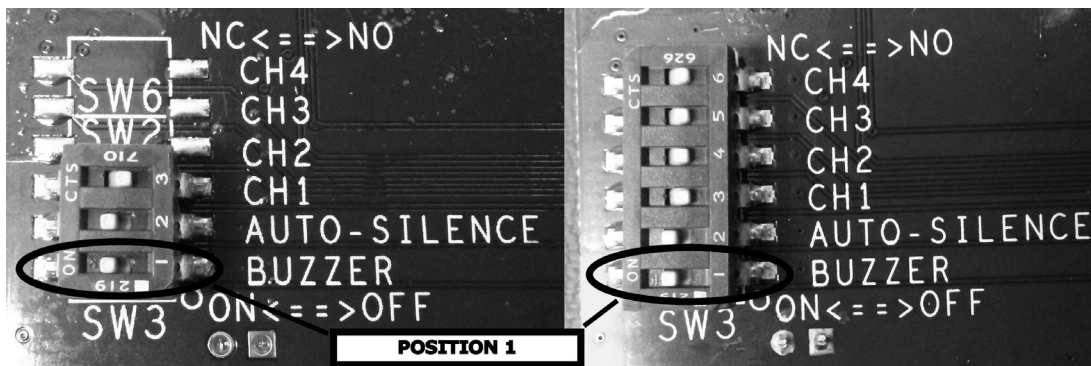

Figure 5 Configuration DIP Switch
- i. **Normally Open Contact Input Devices (default):** If the input device(s) to be connected to the 918 Series Alarm utilize normally open contacts, set DIP switch, position from Table 2 in the OFF position (see Figure 5).